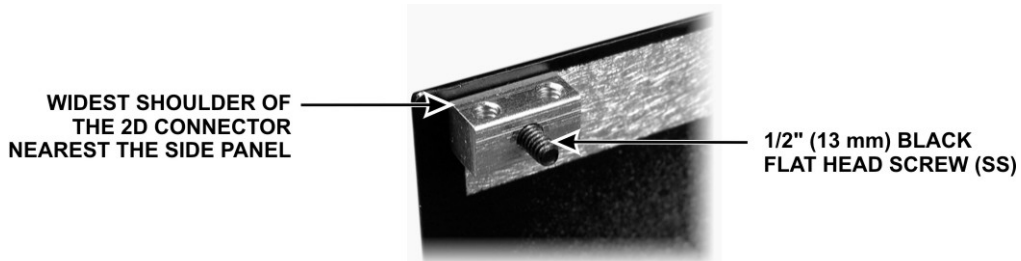

Figure 22. Mounting 2D fastener for KANT3 or KAT3 Standoff.
□ At the upper rear corner of the side panel you just identified in the previous step, mount a 2D fastener as shown in Figure 22, using a black 4-40 1/2" (13 mm) flat head screw (SS). Remember that flat head screws are measured from the flat top to the end of the threads. Note that the screw extends some distance through the 2D fastener.